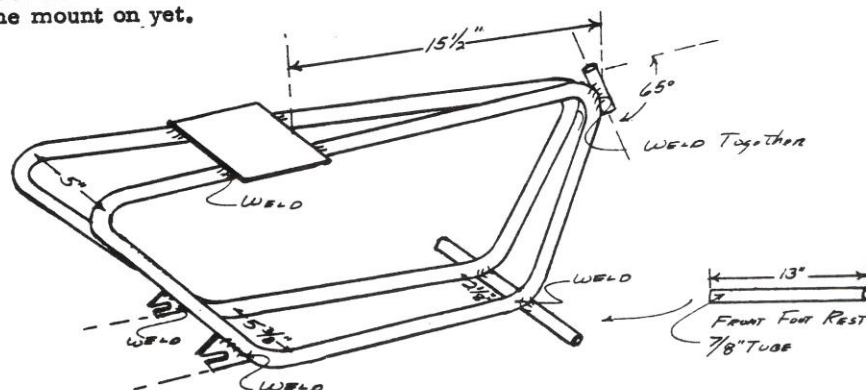

FIGURE 13
8. Weld the 2 main side members you have made as shown in Figure 13 below. To hold the proper distance between each side member, we would suggest that you make wood blocks the proper length to use as spacers between the side members and clamp together before welding. Weld the seat plate as indicated. Next weld the front foot rest as shown. Weld the front fork tube at the proper angle as indicated. Weld on the 2 rear axle supports so that the bottom of each support is flush with the top of the frame tube. Better use $5/8"$ axle bolt to make sure you have lined them up correctly. Be sure to weld to the inside of the frame as shown. Note that you are not to weld the engine mount on yet.